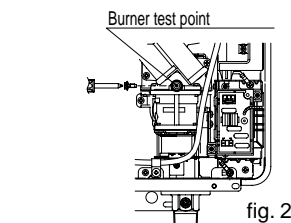

fig. 2
4. Remove the face plate from the Remote Control, using a screw driver. (fig 2)
4. **Ensure the position of the terminals for controls** shown on the Printed Circuit Board **COVER**. Connect the spade connectors to the terminals on the P.C.B. (fig. 2) Polarity is not important. Either wire colour can be connected to either terminal.
5. **Ensure the position of the terminals for controls** shown on the Printed Circuit Board **COVER**. Connect the 4 spade connectors to the terminals on the P.C.B. (fig. 2) Polarity is not important. Either wire colour can be connected to either terminal.